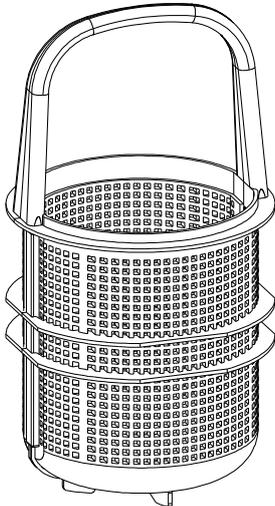

Fig. H-1: Hair and fibre strainer
5. To facilitate cleaning, the hair and fibre strainer can be half-way opened (see Fig. H-1).